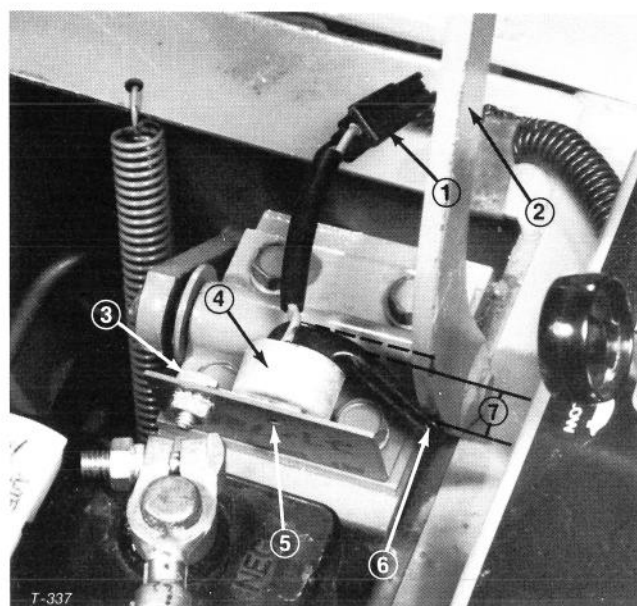

Figure 40
2. Disconnect negative battery cable from battery and separate wire harness connectors (Fig. 40).
3. Move PTO lever to the ON position and remove capscrew and locknut holding switch against mounting bracket (Fig. 40).
4. Install new switch with capscrew and locknut. Move PTO lever to OFF position. When lever is in its normal, released position, the switch arm must bend about 1/2 inch (13 mm) (Fig. 40). If switch arm does not bend 1/2 inch (13 mm), bend the mounting bracket to get the correct adjustment.